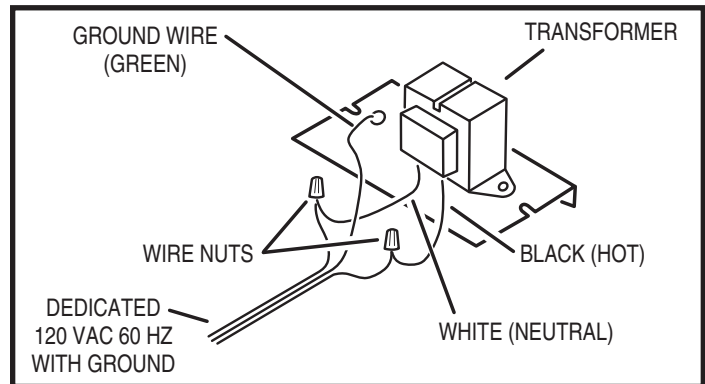

Figure 5. Transformer Power Wiring
3. If installing the second transformer for the CD/MP3 Player option, cut a 1-1/2 foot length of power cable to loop between the two transformers. Insert an end of the cable into each of the transformer enclosures through the bottom knockout holes. Use wire nuts to connect the cable to the TE2D transformer BLACK (HOT) and WHITE (NEUTRAL) input wires. Connect the GREEN (GROUND) wire to the cable's ground conductor (see Figure 5).
4. Route the incoming power cable into the TE5D transformer enclosure through the bottom knockout hole. Use wire nuts to connect the incoming power cable to the TE5D transformer BLACK (HOT) and WHITE (NEUTRAL) input wires (and to the cable going to the TE2D transformer if installed). Connect the GREEN (GROUND) wire to the cable(s) ground conductor (see Figure 5).